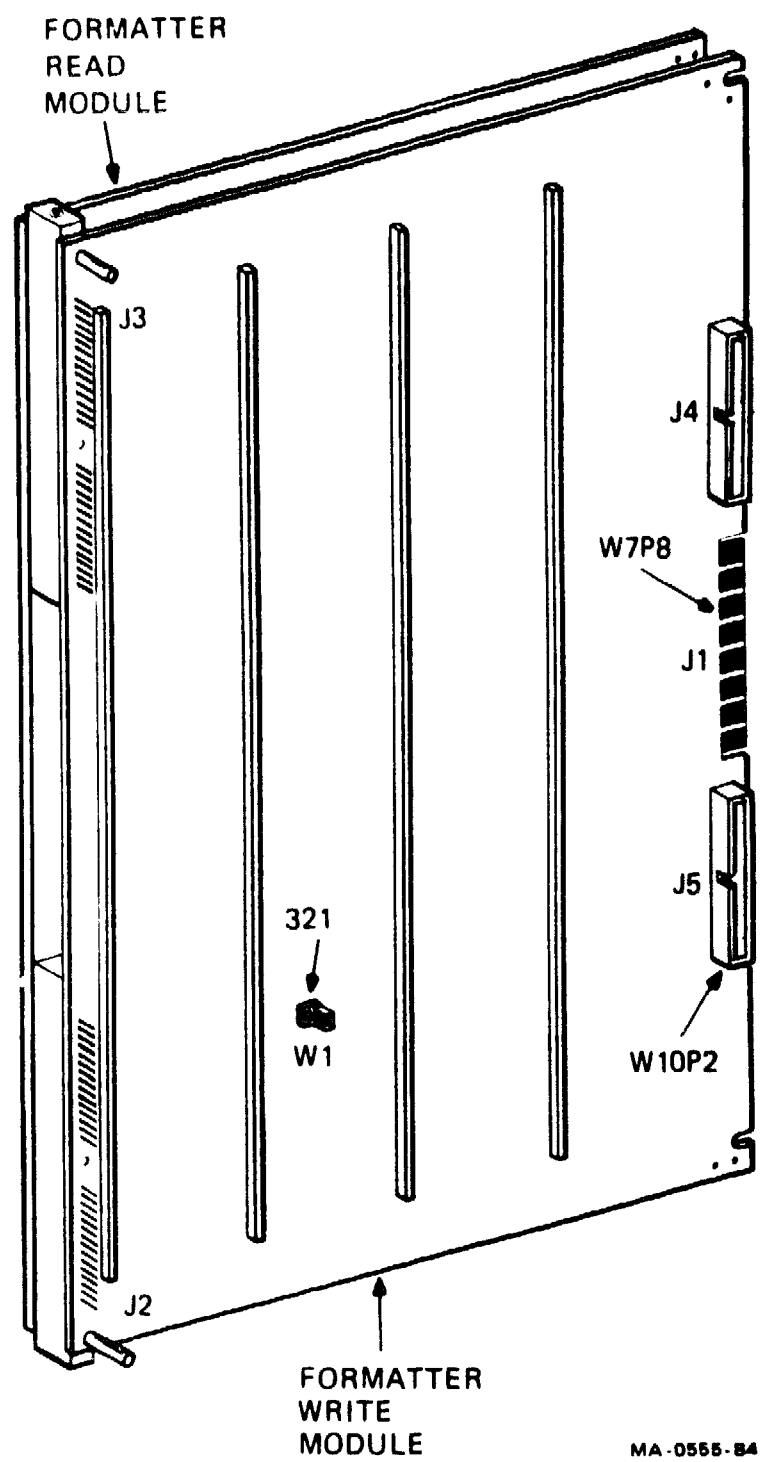

Figure 5-31. FORMATTER WRITE MODULE
3. Remove connectors W10P2 and W11P from the module (Figure 5-31) and power supply connector W7P8 at the rear of the module (Figure 5-31).
Before installing the new module, make sure that the jumper blocks (W1, W2, and W3) at module locations A1 and B1 are in the same position as on the replaced module. See Figure 5-31.